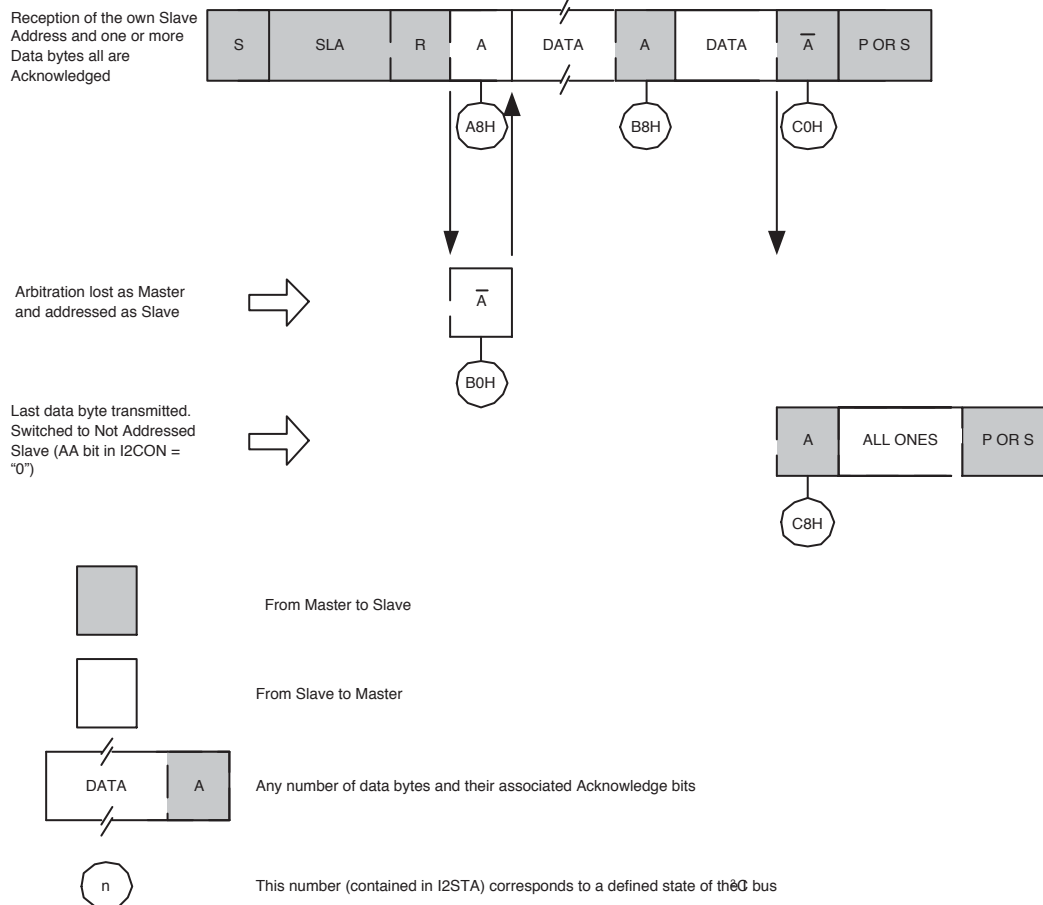

Fig 36. Format and States in the Slave Transmitter mode
In the slave transmitter mode, a number of data bytes are transmitted to a master receiver (see Figure 36). Data transfer is initialized as in the slave receiver mode. When I2ADR and I2CON have been initialized, the I2C block waits until it is addressed by its own slave address followed by the data direction bit which must be "1" (R) for the I2C block to operate in the slave transmitter mode. After its own slave address and the R bit have been received, the serial interrupt flag (SI) is set and a valid status code can be read from I2STAT. This status code is used to vector to a state service routine, and the appropriate action to be taken for each of these status codes is detailed in Table 151. The slave transmitter mode may also be entered if arbitration is lost while the I2C block is in the master mode (see state 0xB0).